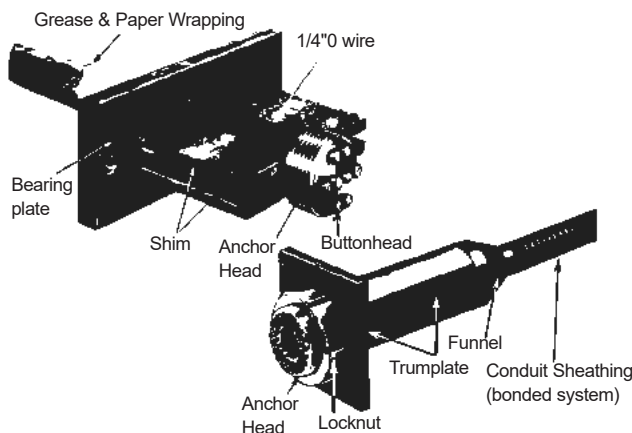

Figure 20: Wire Tendon Systems
3) **Wire Systems** (Figure 20)